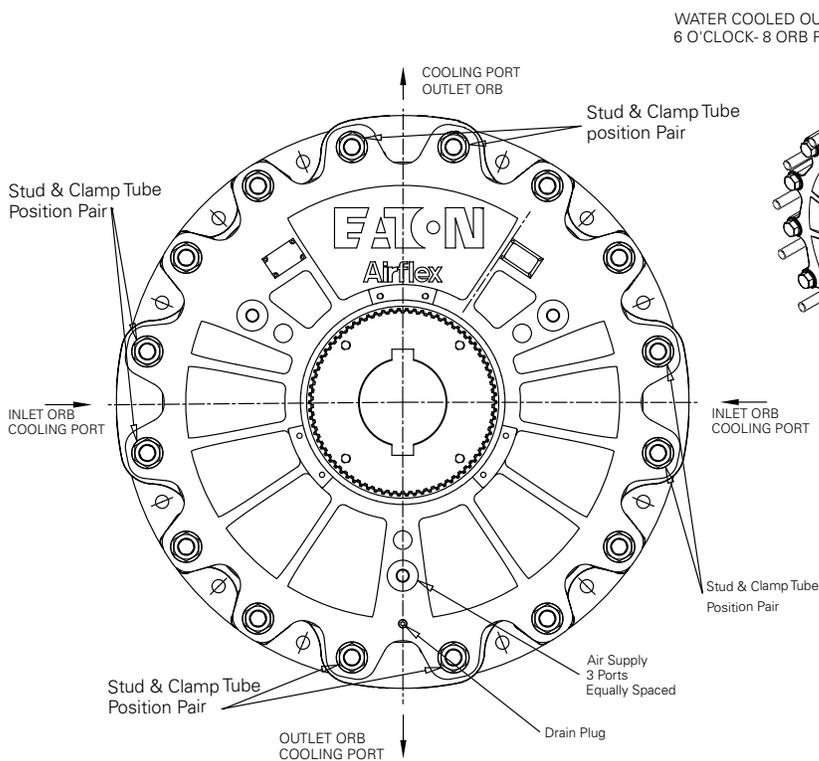
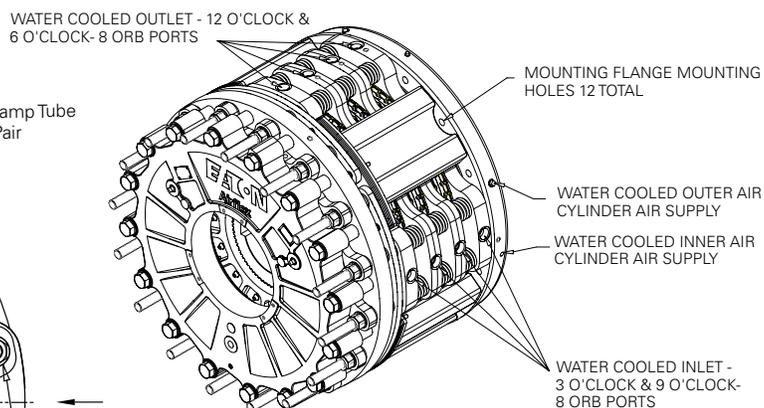

Figure 15
Figure 15A
4.9.4 Reference Figure 15 and Figure 15A and make the Eaton Airflex logo the 12 o'clock position and the drain plug (105) the 6 o'clock position. The centerline of the tensioner running through the 12 o'clock
4.9.5.1 Reference Figure 15 and Figure 15A Place a support beam (138) over each pair of studs that are located at 45 degrees to each pair of clamp tubes (12). Four support beams are required. Be sure that the support beam rests on the mounting flange/cylinder. There should be no gap.